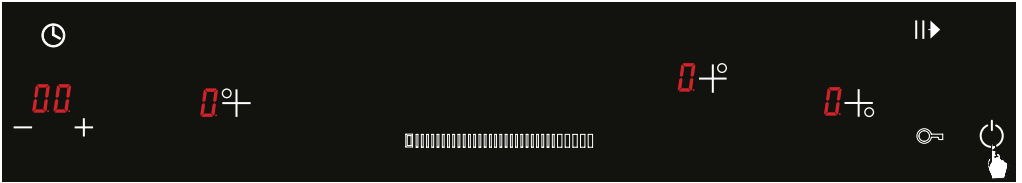

Figure 3
1. The appliance is switched on by pressing the  button. (See Fig. 3)